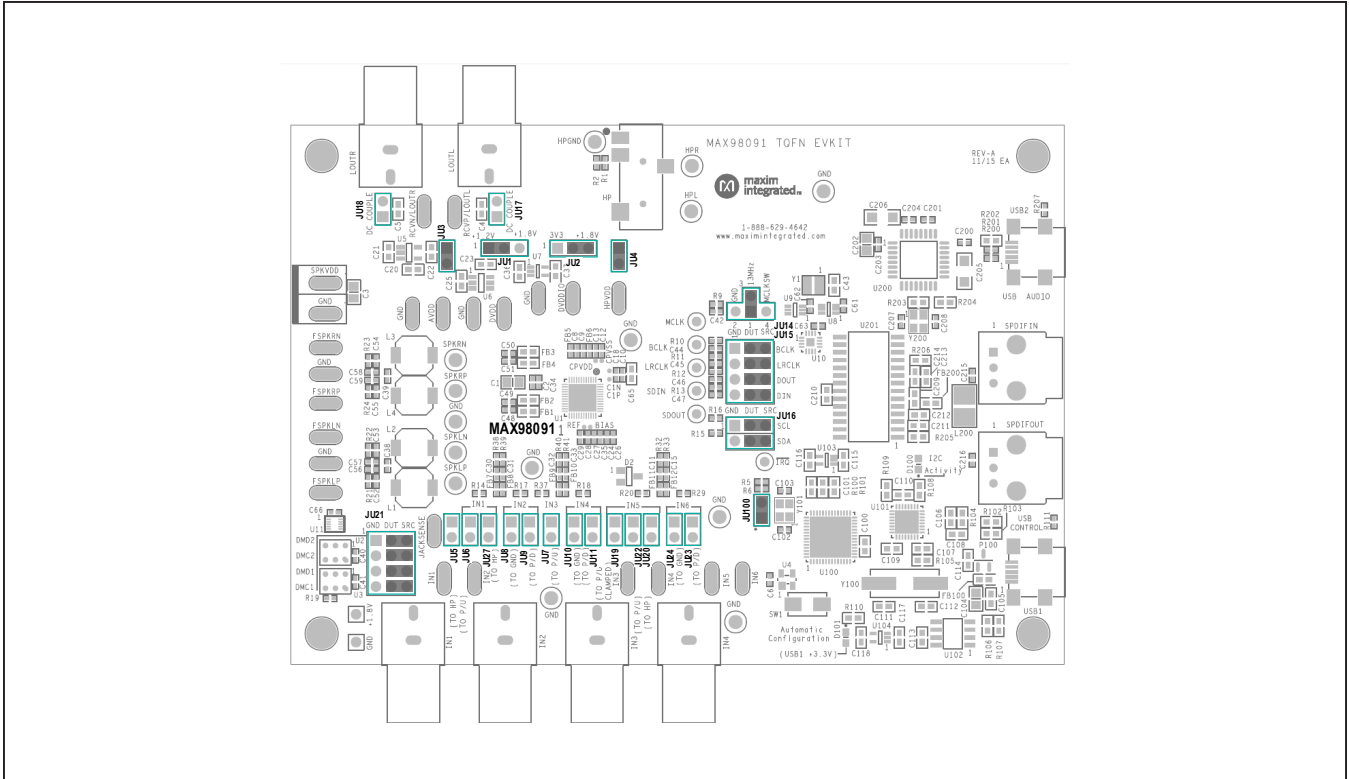
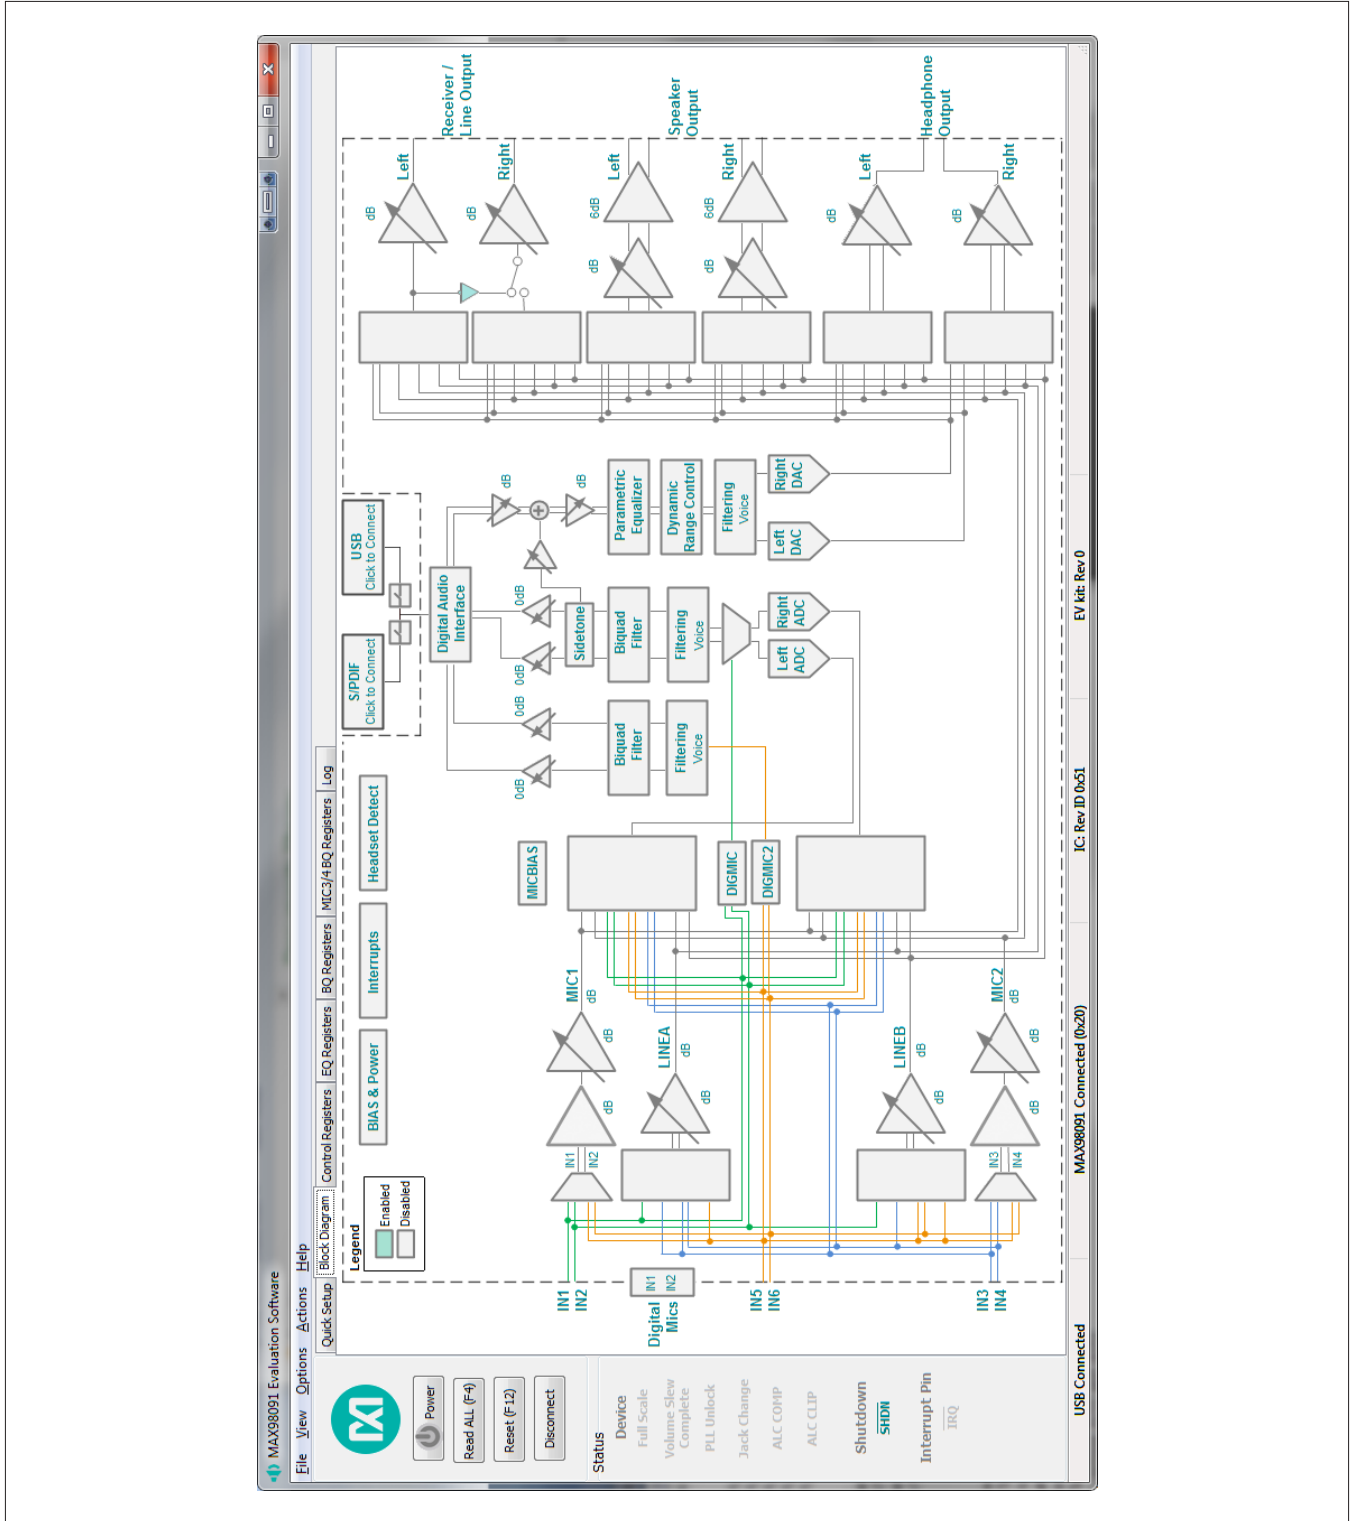

Figure 1. Default Shunt Configuration
Figure 3. MAX98091 Software Main Window
- 3) Verify that all jumpers are in their default positions, as shown in Figure 1 (same as listed in Table 2).
- 8) Connect the headphones to the headphone jack (HP).
- 9) Start the MAX98091 Evaluation Software by opening its icon in the **Start | Programs | Maxim Integrated | MAX98091 | Evaluation Software** menu. The software main window appears, as shown in Figure 3.
The MAX98091 software main window is divided into three sections: software buttons, status panel, and tabbed pages (Figure 3). The buttons provide basic functionality and the status panel provides monitoring capabilities. The tabbed pages provide the controls for programming the MAX98091.